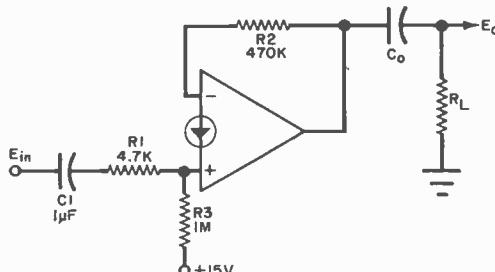

Fig. 5. Non-inverting CDA amplifier.
**Non-Inverting Amplifier.** Figure 5 shows a non-inverting amplifier using a CDA. This is